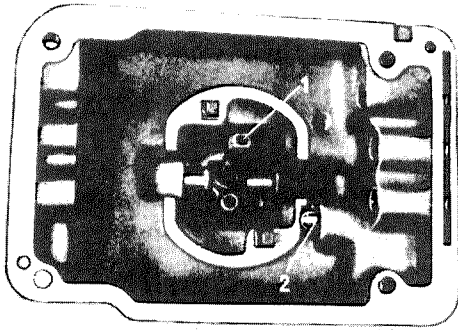

Fig. 26-4/3
4. Unscrew the hexagon socket screw of the shifting finger, pull out the shifting shaft and remove the shifting finger (see Fig. 26-4/3).